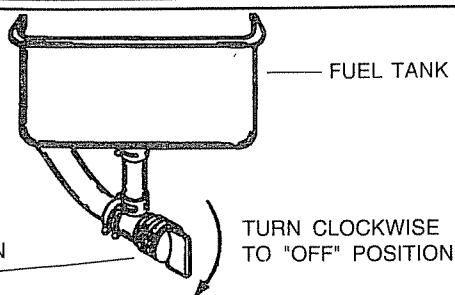

Figure 2
- D. Be sure fuel valve (if so equipped see Figure 2) is open.